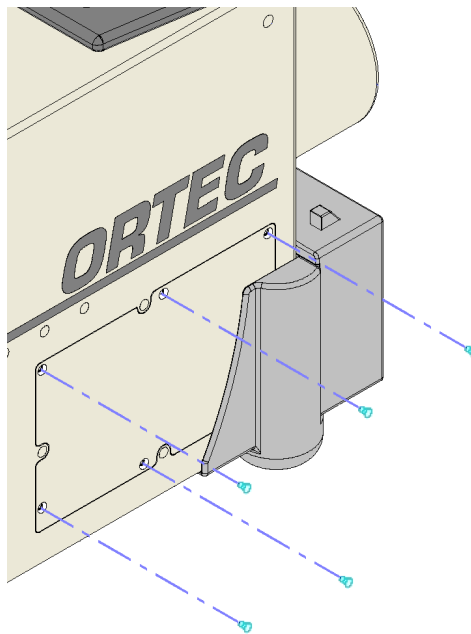

Figure 96. Battery Hatch Fastened With Five Screws.
- 2) Figure 96 shows the battery hatch on the side panel. Remove the five (5) Phillips or Torx® T10 screws from the hatch (there is no sixth screw under the black rubber “foot”). Gently pry up one end of the hatch, then slip it from behind the rubber foot and expose the battery.